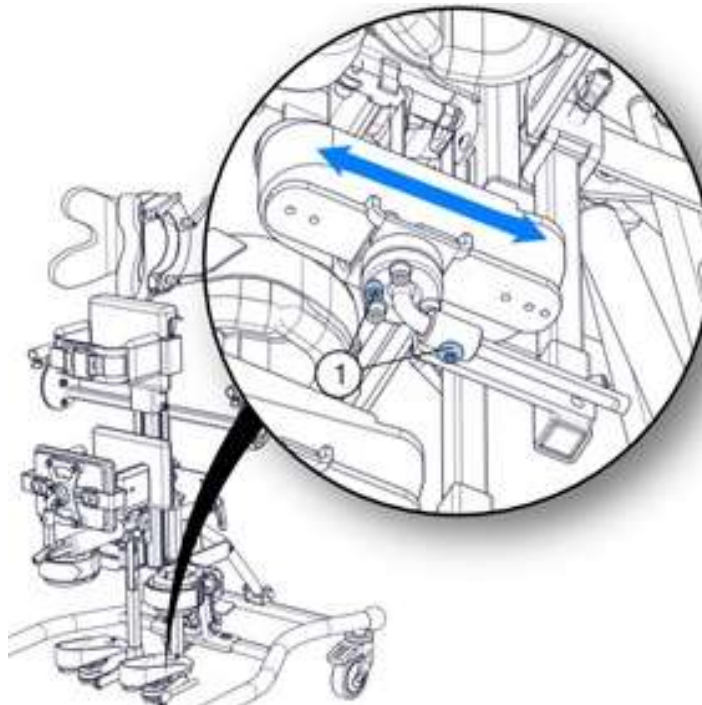

Fig. 16
Fig. 16 Adjustment (front-to-back) of the foot platform is possible by loosening the screws (1). The adjustment allows the foot platform to be moved in the (forward-backward) direction. After adjusting the position of the platform, tighten the screws (1).